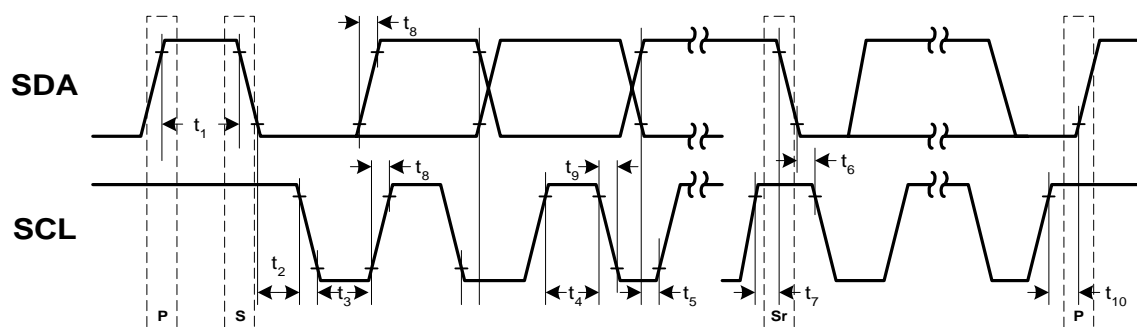

Figure 1. Detail Timing Diagram
3. After acknowledged the Instruction Byte, the last byte in Write mode is the Data Byte. Data is transmitted over the serial bus in sequences of nine clock pulses (eight data bits followed by an “Acknowledge” bit). The transitions on the SDA line must occur during the low period of SCL and remain stable during the high period of SCL, Figure 1.